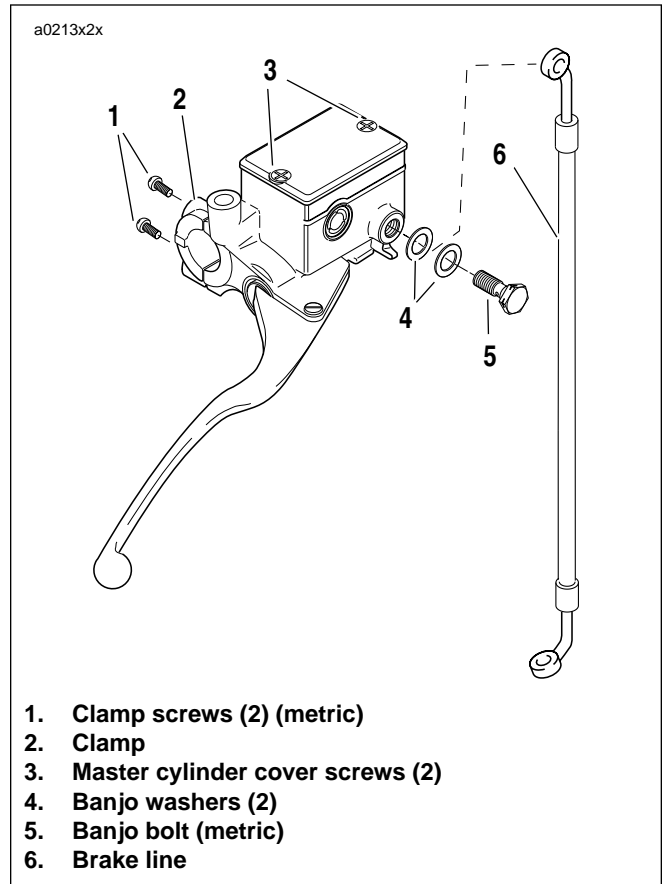

Figure 2-28. Front Master Cylinder
3. See Figure 2-28. Remove banjo bolt (5) (metric) and two banjo washers (4) to disconnect brake line (6) from master cylinder. Discard banjo washers.
1. See Figure 2-28. Fasten master cylinder to handlebar by installing clamp (2) and screws (1) (metric). Tighten to 80-120 **in-lbs** (9-14 Nm).
5. See Figure 2-28. Remove the two master cylinder cover screws (3), cover and cover gasket.
9. See Figure 2-28. Attach master cylinder cover and cover gasket with the two cover screws (3). Tighten to 9-13 **in-lbs** (1.0-1.5 Nm).